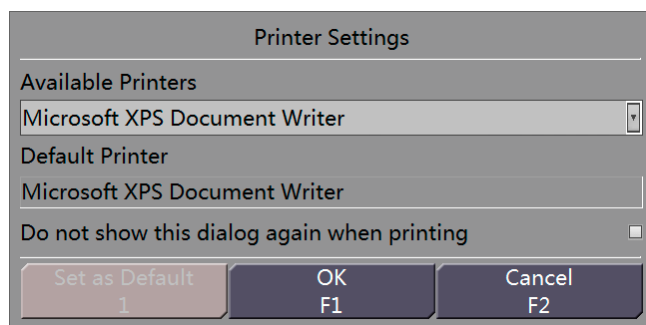

Figure 14-9 Printer Settings
Step 4 If you Click “OK”, the Printer Settings dialog box is displayed, as shown in Figure 14-9. Select the printer connected to the equipment or the default printer. Select the Do not show this dialog again when printing check box so that the dialog box is not displayed next time.